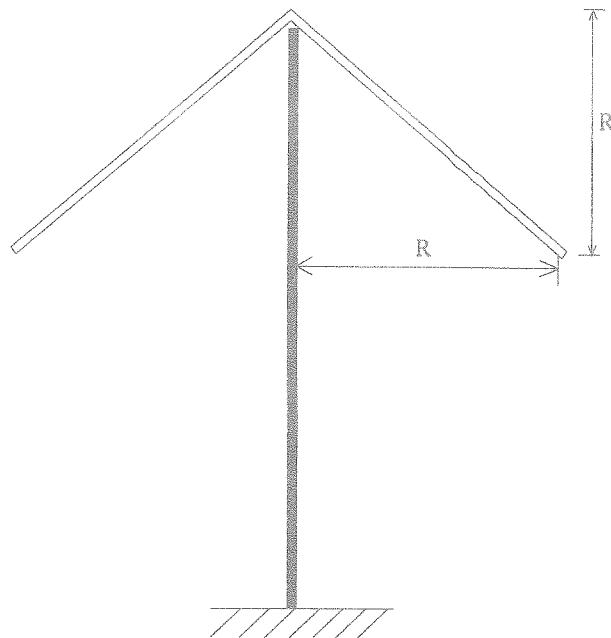

Figure Q5
- c) A conical shell made of thin aluminum sheets is proposed to be used as a roof of a cafeteria as shown in Figure Q5. The shell is subjected to its self-weight of "w" per unit surface area, and possible imposed load of "0.5 w" per unit plan area.